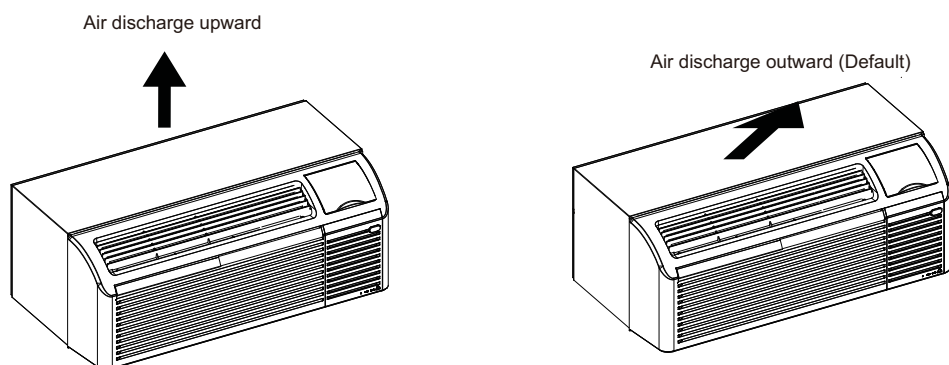

Fig.19–Adjusting Louvers
3. Turn louver insert and rotate 180°. See Fig.19.